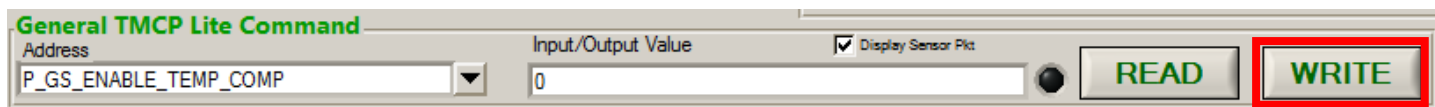

Figure 16 P_Setting P_GS_ENABLE_TEMP_COMP to 0
- 3) Using alignment software set Address box to "P_GS_ENABLE_TEMP_COMP" and Input/output Value box to 0 and click "WRITE".(Figure 16)